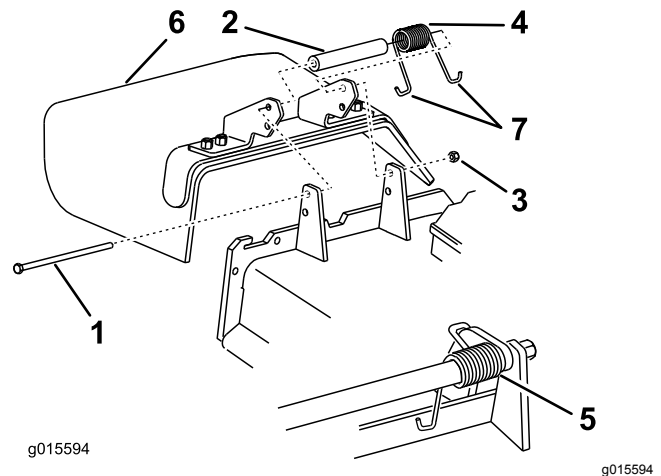

Figure 114
1. Remove the locknut, bolt, spring, and spacer holding the deflector to the pivot brackets (Figure 114).
2. Remove the damaged or worn grass deflector (Figure 114).
Note: Make sure that 1 J-hook end of the spring is installed behind the deck edge before installing the bolt as shown in Figure 114.
6. Place 1 J-hook end of the spring around the grass deflector (Figure 114).